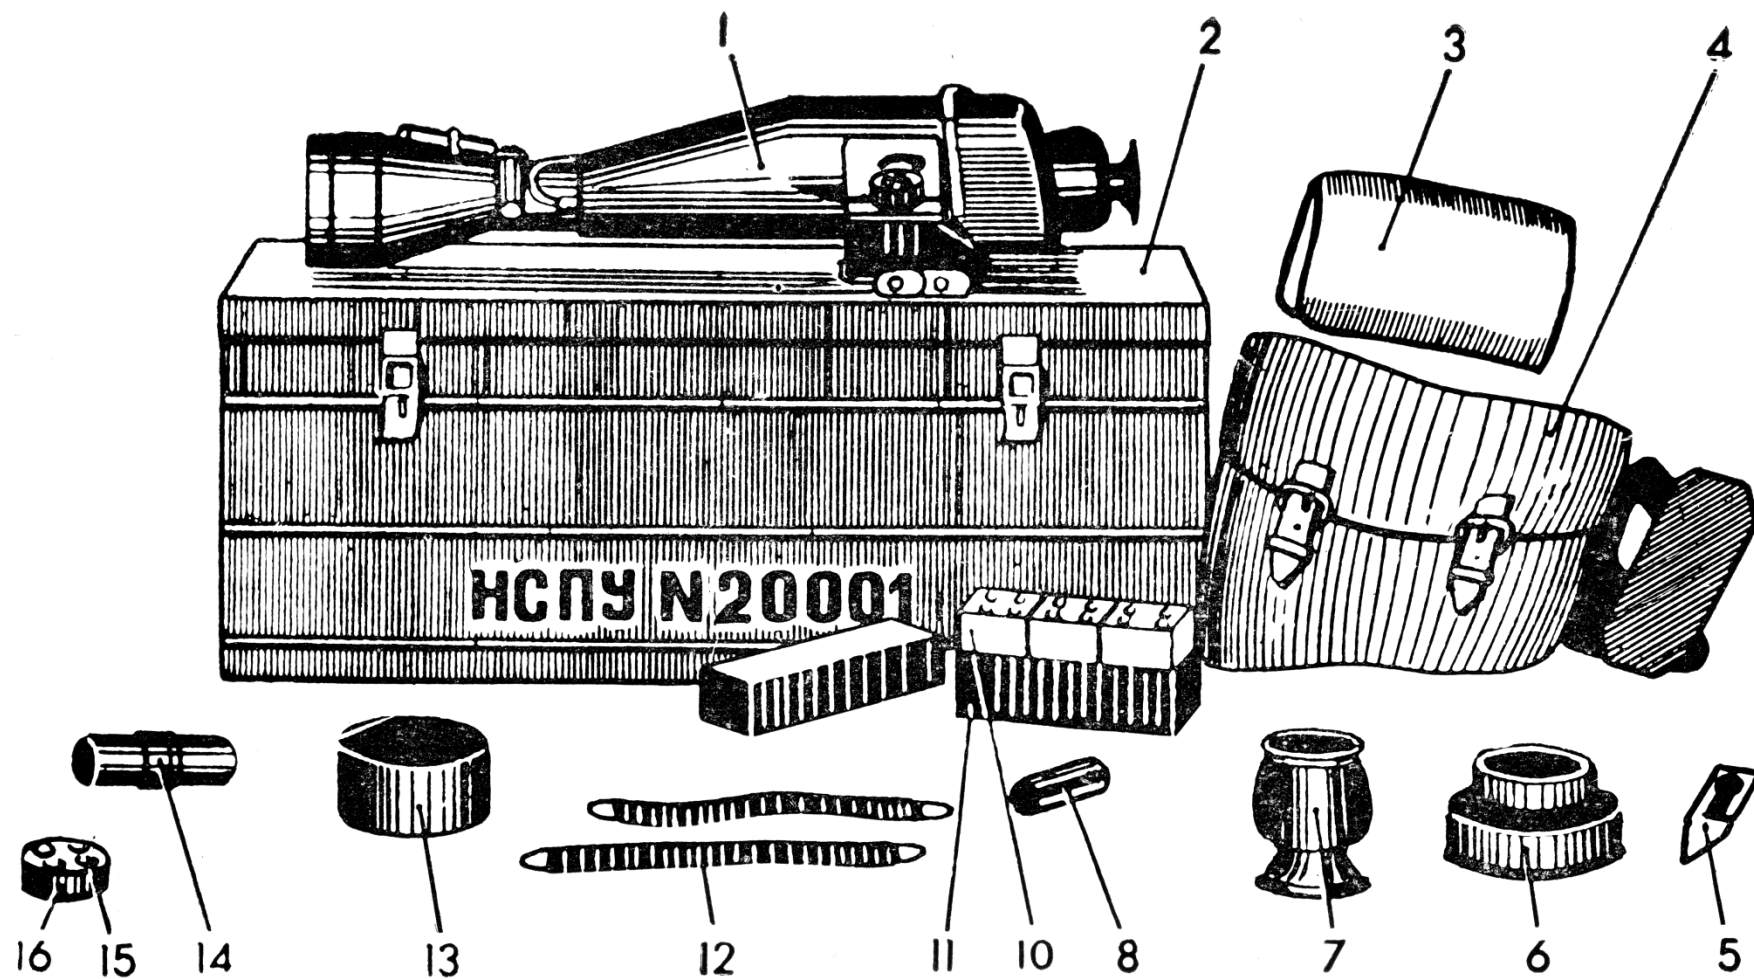

Fig. 1. Standard equipment for sight:
- Unscrew screws 10 (Fig. 18) using wrench 5 (Fig. 1.) without rotating adjustment knob 8;
- Unscrew screws 10 (Fig. 18) using wrench 5 (Fig. 1) without rotating adjustment knob 8;
- Unscrew screws 10 (Fig. 18) using wrench 5 (Fig. 1) without rotating adjustment knob 8; j